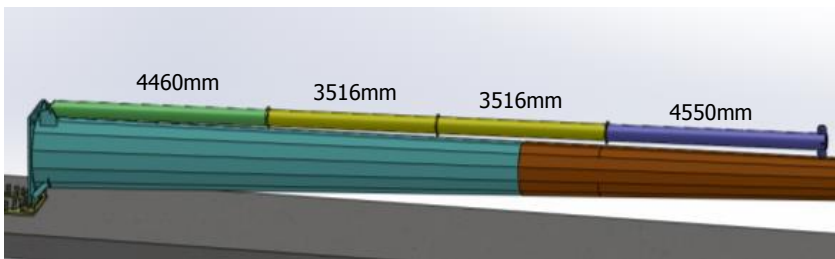
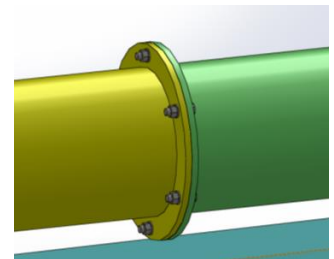

Figure 4.2
Figure 4.3
3. Assemble the sections of the gin pole according to Figure 4.2 below. Flanges between the sections must be bolted together with the M16 bolts as shown in Figure 4.3 to meet the recommended torque 161N-m.